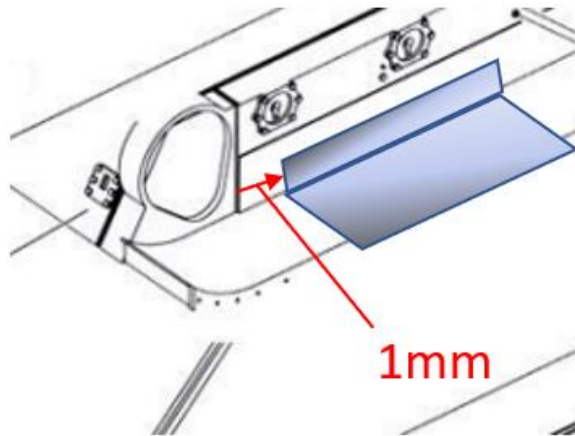

Figure 2
3. Dry fit the parts, by placing the front edge of the sponson appropriately 1mm back from the vertical weld on the kit as per Figure 2 on each side. The sponson armour should overhang .5mm from the hull of the kit. Attached with CA glue.